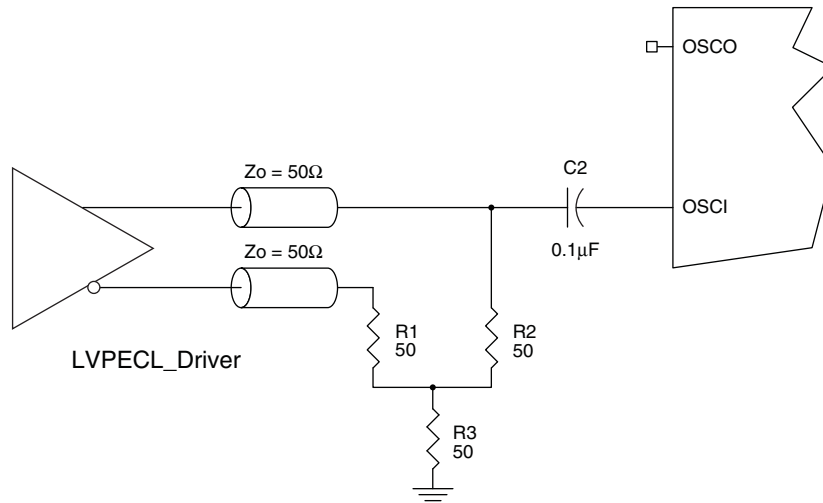

Figure 9. LVPECL Driver to XTAL Input Interface
**Figure 9** shows an example of the interface diagram for an LVPECL driver. This is a standard LVPECL termination with one side of the driver feeding the **XIN/REF** input. Renesas recommends placing all the components of the schematics in the layout. Though some components may not be used, they can be used for debugging purposes. The datasheet specifications are characterized and assured by using a quartz crystal as the input.